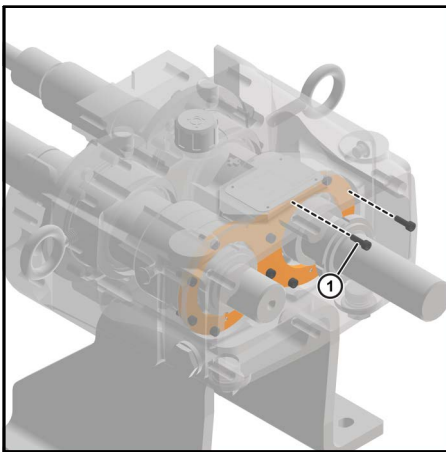

Figure 262 - Loosen and remove rear bearing retainer bolts
1. Loosen and remove the rear bearing retainer bolts (1) as shown in Figure 262.